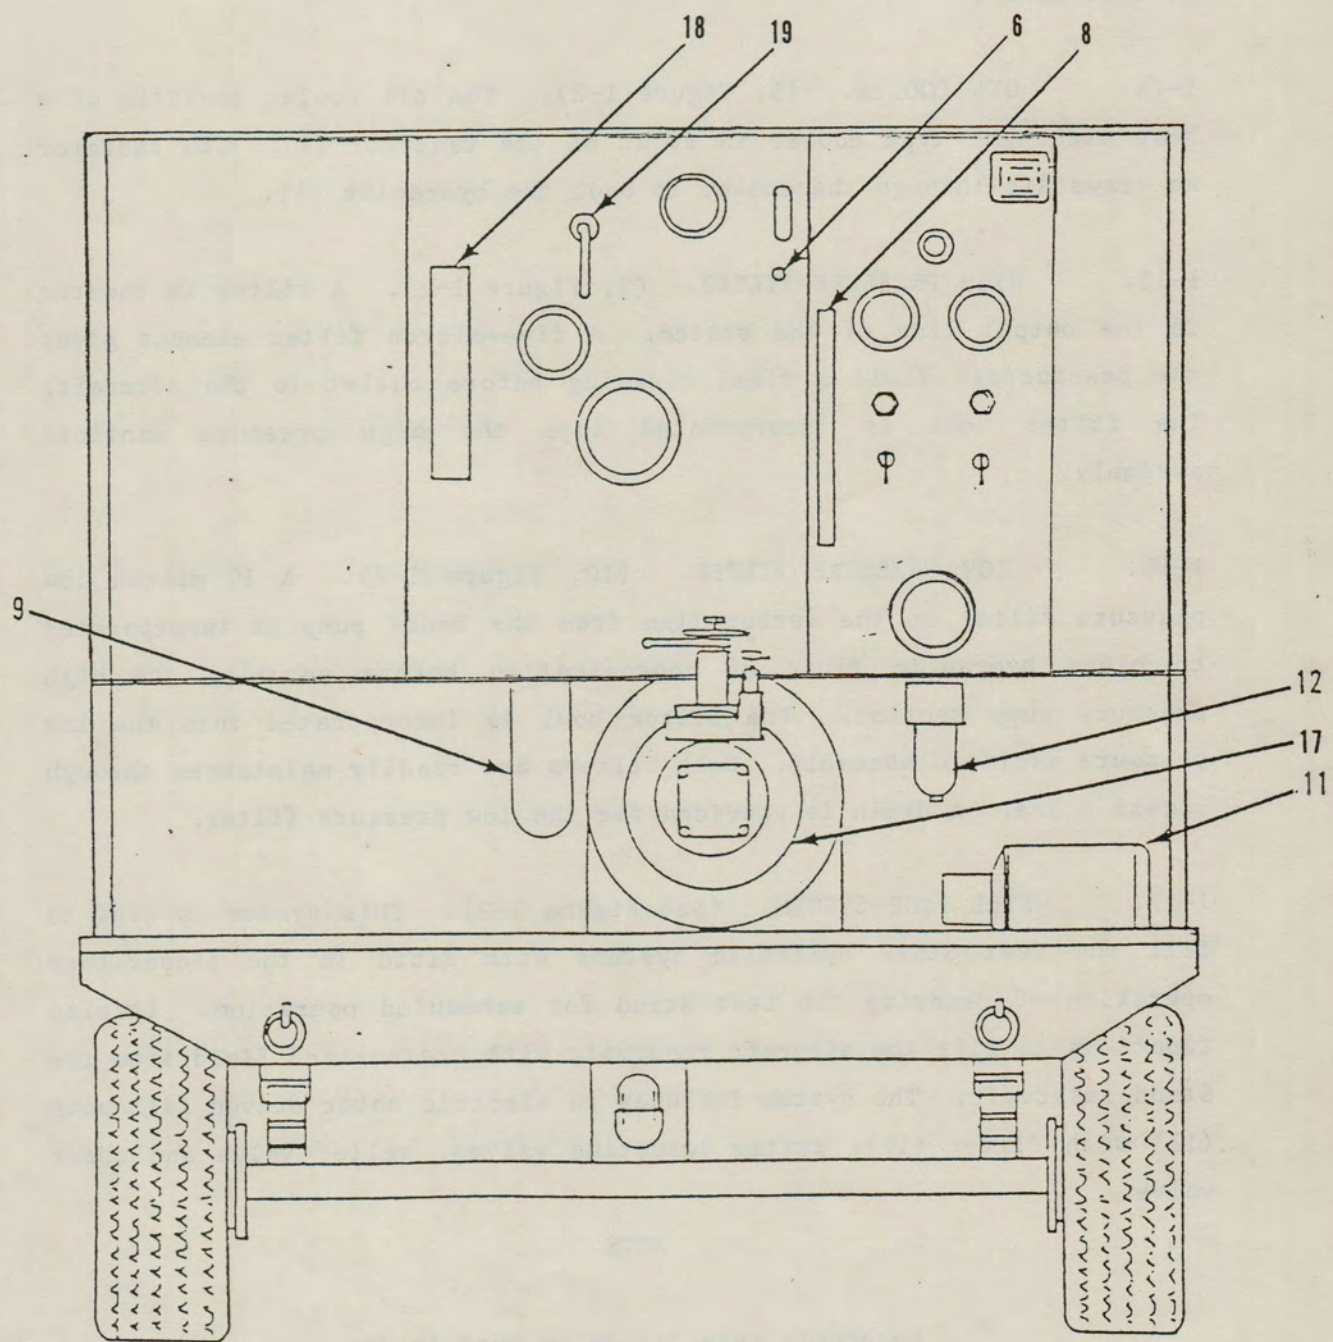

Figure 1-2. Major Components, Rear View. (Sheet 2 of 2)
1-13. HYDRAULIC FLUID RESERVOIR. (13, Figure 1-2). The pressurized reservoir is designed to supply fluid to the systems during operation in "Stand" position of the reservoir selector valve (19) and to supply fluid to the fill systems. A filler neck (14) and cleanout cover (15) is located on the end of the reservoir allowing manual filling. A fluid level indicator (8) of the sight glass type is also provided on the control panel.